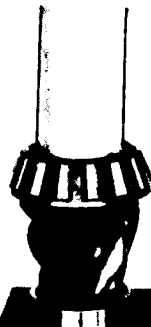
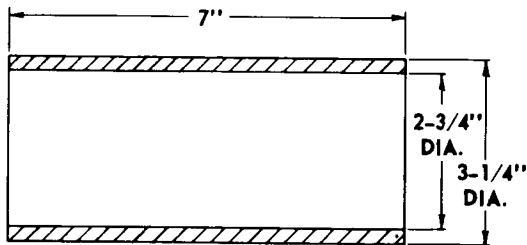
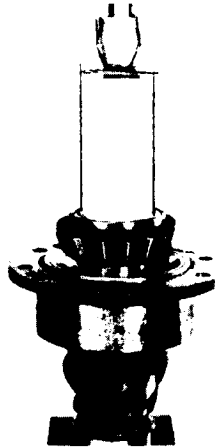

FIG. 91
FIG. 92
FIG. 97
3. Press center pinion bearing cone onto pinion shaft (Fig. 91). Bearing driver dimensions are given in Fig. 92.
- Position pinion bearing cage assembly on pinion shaft. Position outer pinion bearing cone on pinion shaft and press into place using steel tubing for driver (Fig. 97). Driver dimensions are shown in Fig. 92.